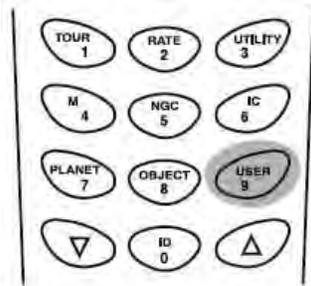

Fig. 44
*Hint: The User Objects menu can also be accessed directly by pressing the quick reference hot key #9 on the hand control numeric keypad, as pictured in Fig. 44*